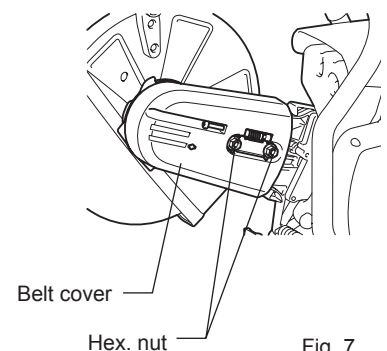

Fig. 7
- (7) Mount belt cover. (Fig. 7)